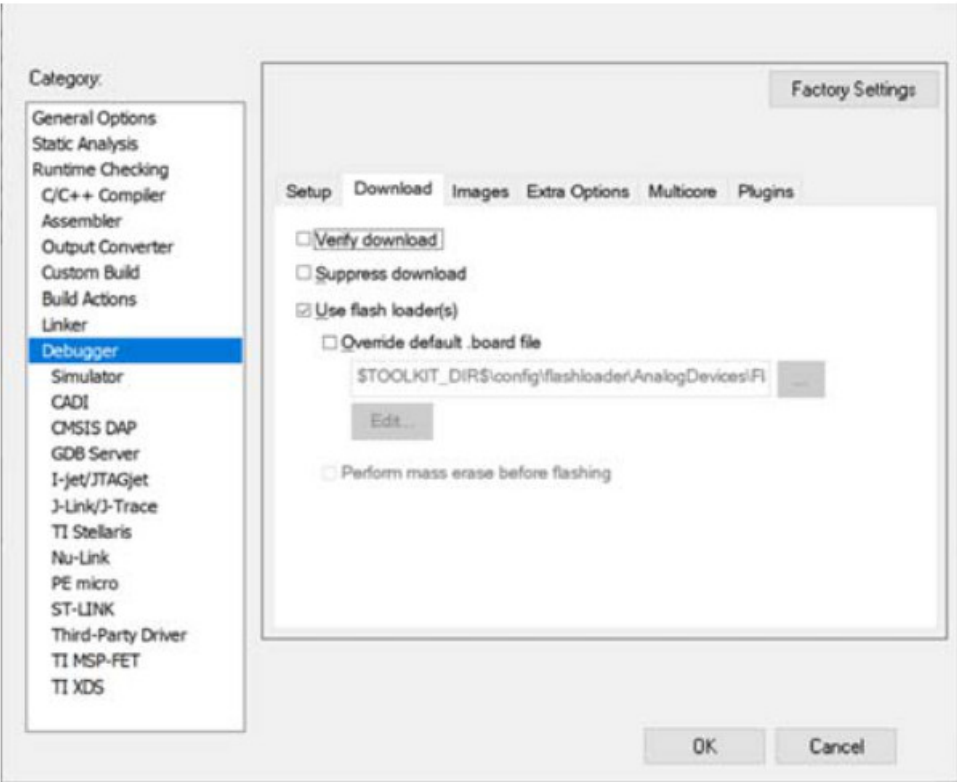
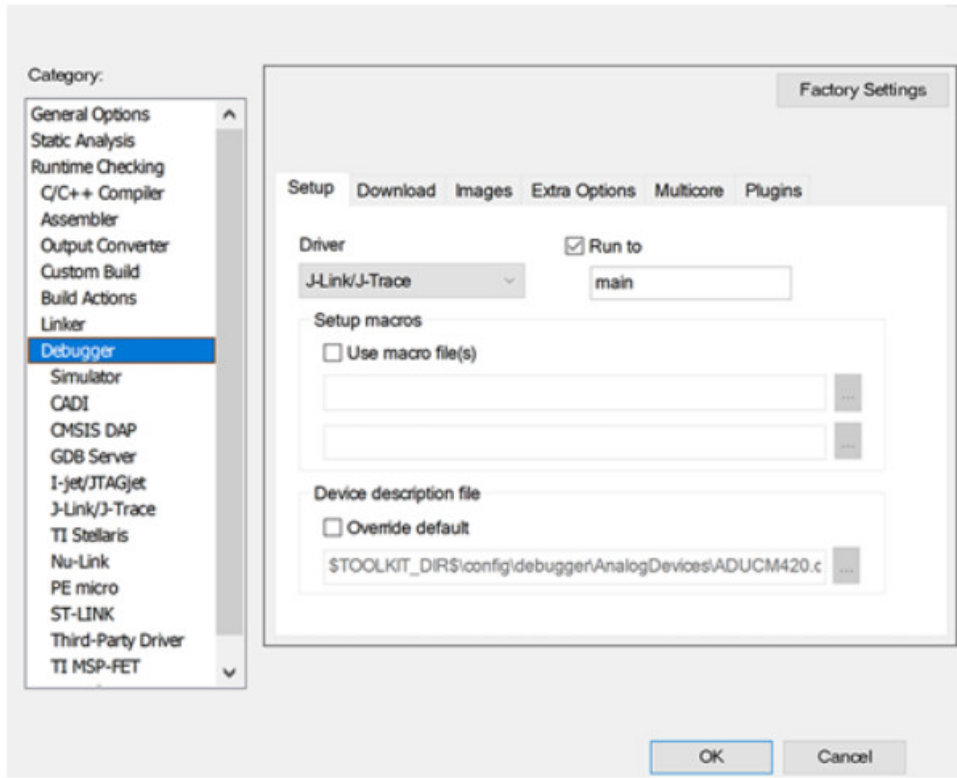

Figure 15. **Debugger** Configuration
Figure 16. **J-Link/J-Trace** Selected in **Setup** Tab
- Check the Debugger settings, and ensure that all settings match those shown in Figure 15 and Figure 16 in the